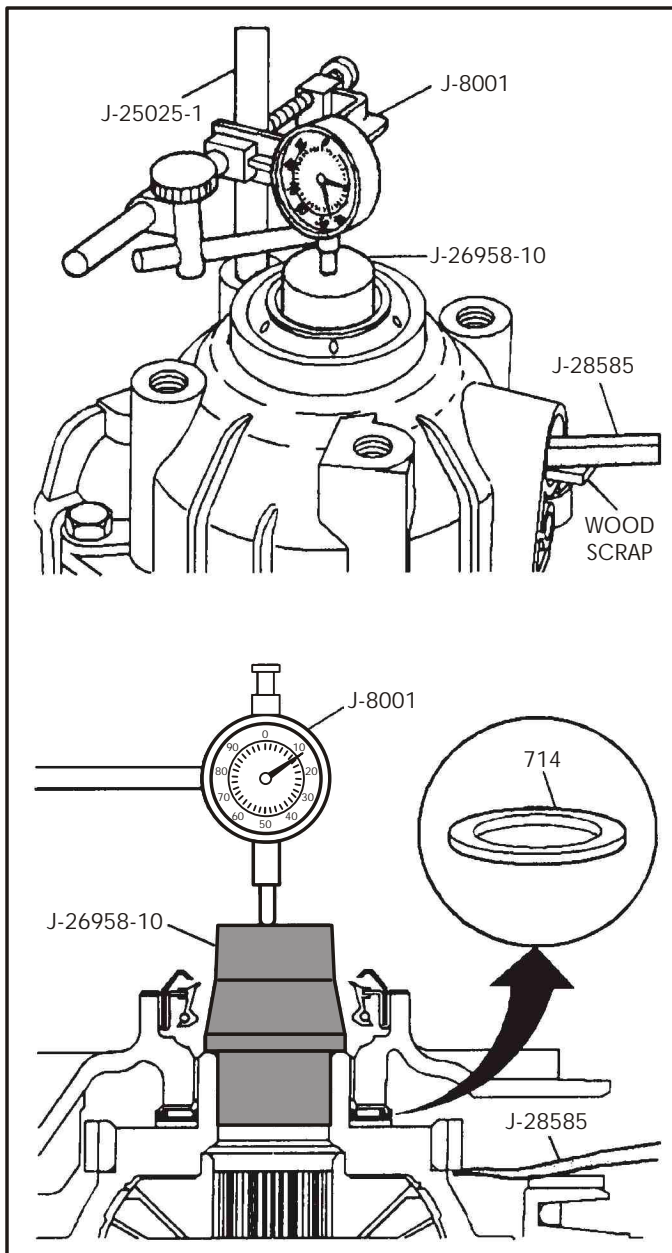

Figure 150
16. Insert tool J-26958-10 through the final drive housing axle seal, as shown in Figure 150.
17. Install dial indicator J-8001 onto transaxle and set up as shown in Figure 150.
19. Use tool J-28585 or large screwdriver in order to lift the differential carrier. Pry up on vehicle speed sensor reluctor wheel through the speed sensor hole in the final drive housing, as shown in Figure 150.